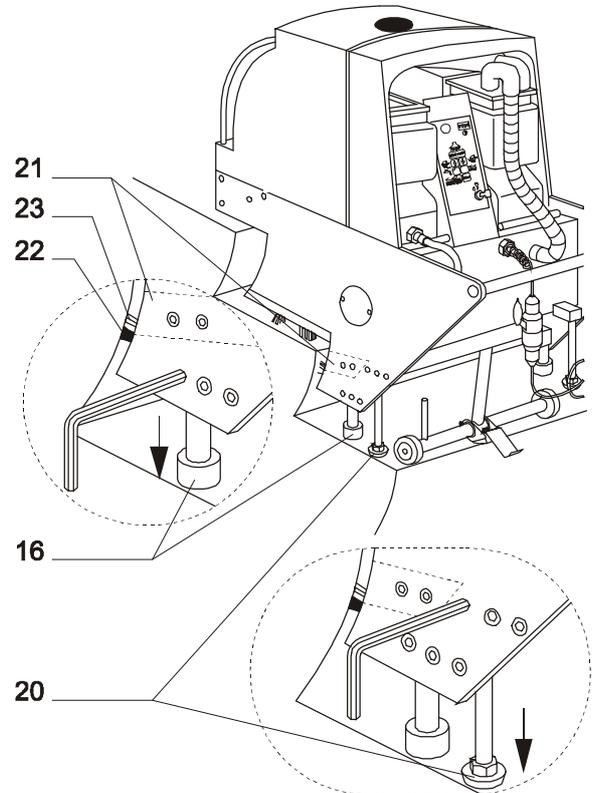

Fig. 8: Setting step height
- Remove the clamp on the left travelling support (16) (see Fig. 8) and move the travelling support in or out until the machine is positioned horizontally with the left travelling support (27) on the tread of the stair; then tighten the clamp on the left travelling support.
- Adjust the safety support (20) on the left side of the machine according to the same procedure.
- Set the travelling support (16) and the safety support (20) on the right side of the machine according to the procedure described above.